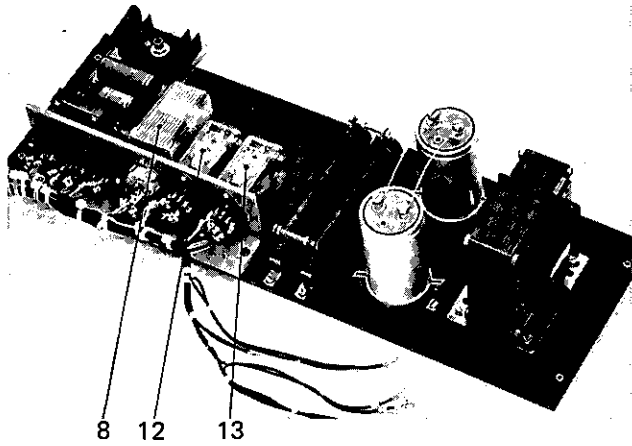

Fig. 7 Current supply for high voltage regulator E 1
The normal load resistors R 15 ÷ 20, R 24, ensure voltage regulation when the high voltage output is open. Power is supplied to the high voltage regulator through the power supply printed circuit board E2 (Fig. 7, item 5).